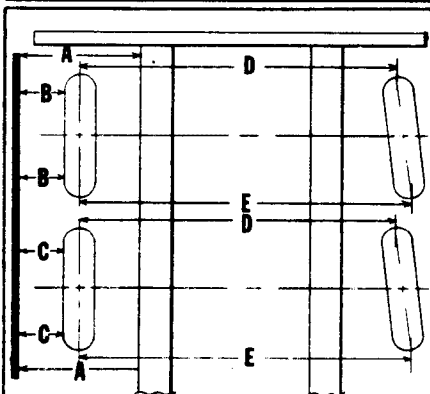
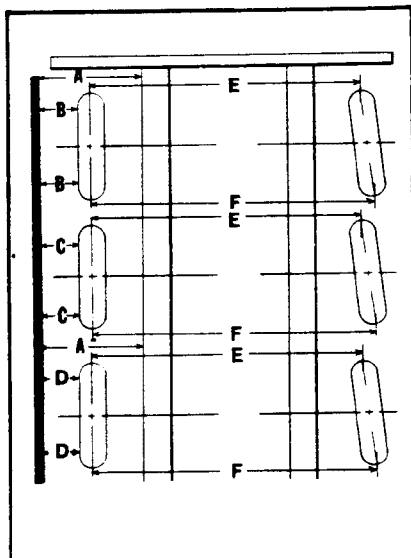

Fig. 4
Fig. 5
- Turn steering wheel until the left tires are in line with each other and are straight ahead with respect to the carrier. Figs. 4 & 5 illustrate one method of checking step (b). This involves placing a straight edge parallel to the carrier by measuring a distance (A) at each end of the straight edge. Once the proper position of the straight edge is determined, measure the distance between the straight edge and the milled surface of the wheel hub used to locate the tire lugs. These dimensions are represented by the letters (B) & (C) in Fig. 4, and the letters (B), (C), and (D) in Fig. 5. Distances (B) must equal (B), and (C) must equal (C), but (B) doesn't necessarily have to equal (C). A drag link adjustment may be necessary to correct any misalignment.
- Once the front left tires are lined up, check for proper toe in. Toe in can be checked by scribing a line around the circumference of the tire tread at the centerline of the tire tread. The difference between the distances (D) on the front and (E) on the back. (E and F in Fig. 5) indicate the amount of "toe in" and should equal $1/8" + 1/32"$. A tie rod adjustment will correct any toe in variations.